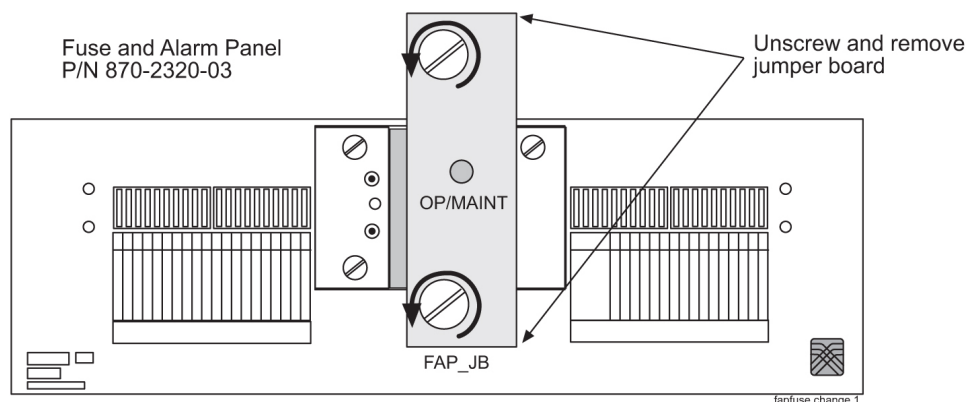

Figure 44: Jumper Board FAP
1. Locate the jumper board on the Fuse and Alarm Panel (FAP). See Figure 44: Jumper Board FAP.